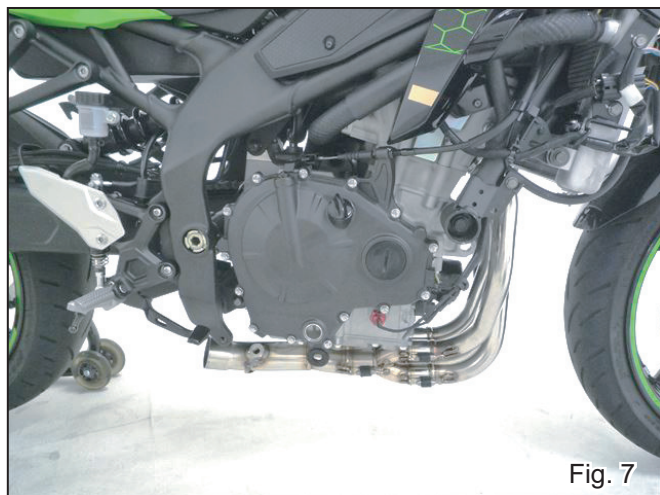

Fig. 7
- 7) Mount header assy (assembled at Step. 5) to exhaust ports and fix it with 4 of Exhaust spring. (See Fig. 7 & 8)